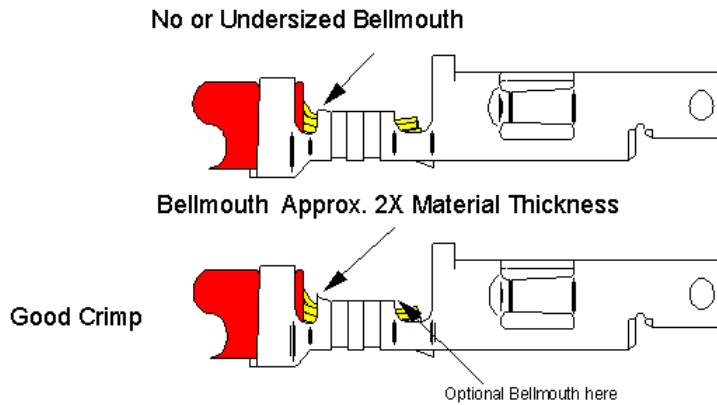

FIG. 17
5.2.9 Undersized Bellmouth (fig. 17)